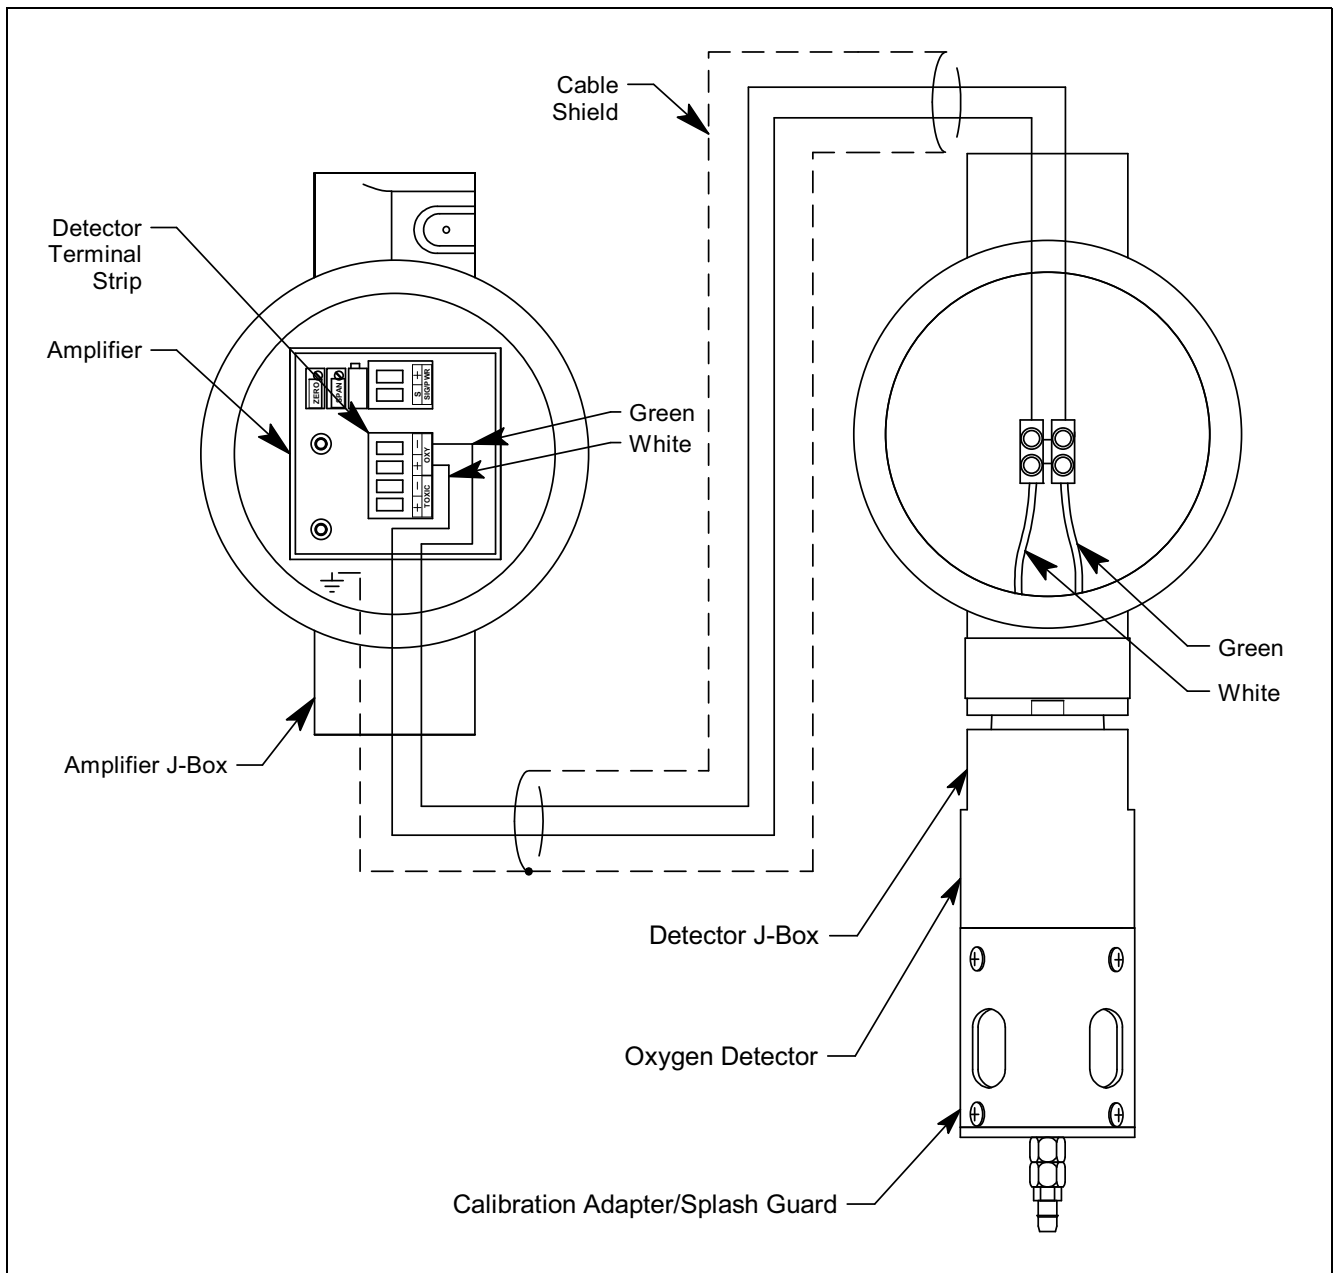
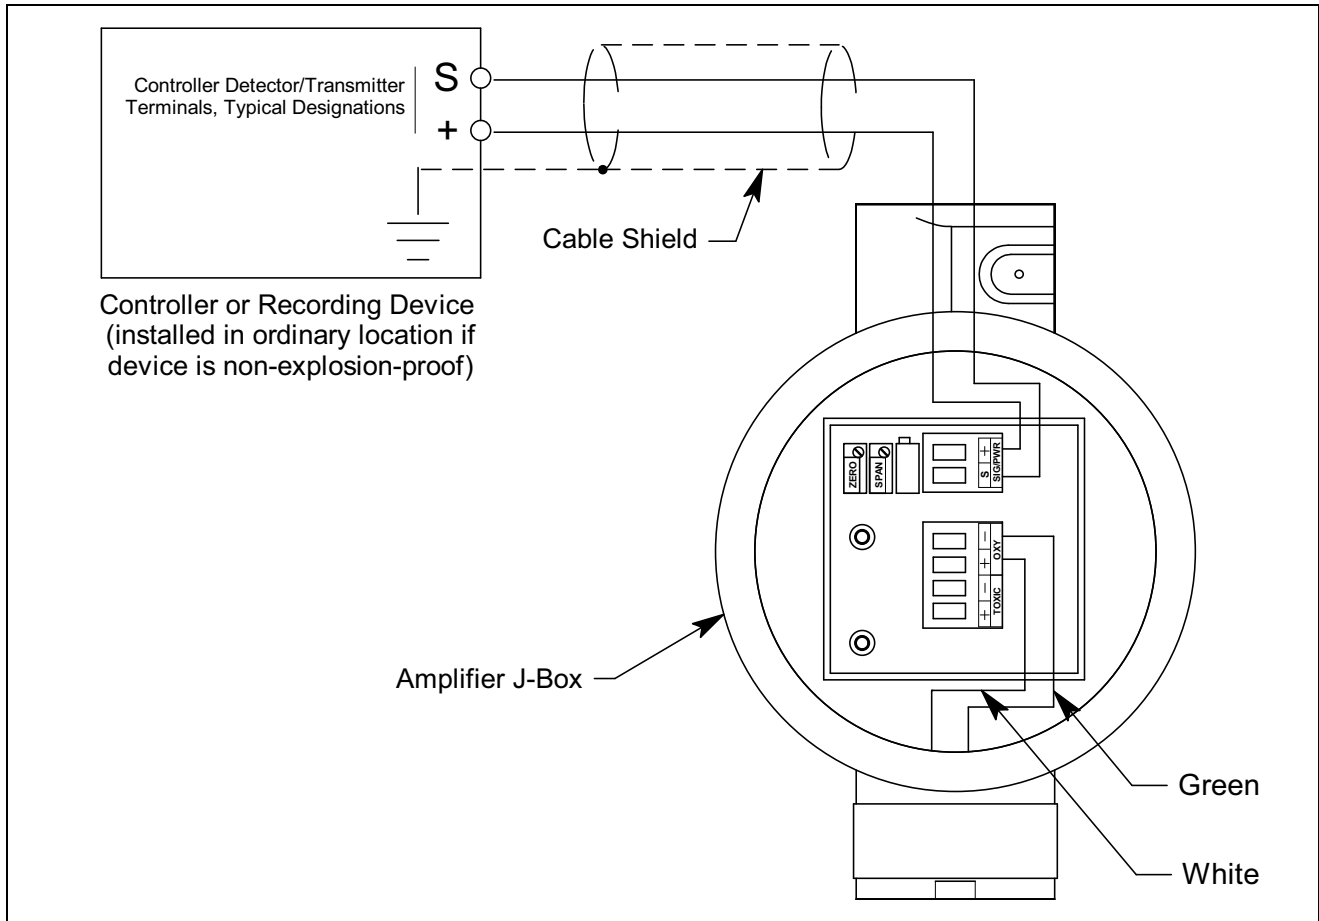

Figure 5: Wiring Detector to Amplifier
Figure 6: Wiring the Amplifier to a Controller
9. Pull out the detector terminal strip and connect the two wires to the terminal strip as follows (see Figure 5).
5. Pull out the controller terminal strip and connect the two wires to the terminal strip as follows (see Figure 6).
9. Connect the wires to the applicable detector/transmitter terminal strip at the controller as shown in Figure 6.
9. Connect the detector leads to the terminal block the same way the old detector was wired (see Figure 5).
9. Install the detector and controller terminals strips into their sockets on the new amplifier as shown in Figure 5 and Figure 6. If controller leads or detector leads were removed during this procedure, refer to Figure 5 and Figure 6 for the detector and amplifier connections.